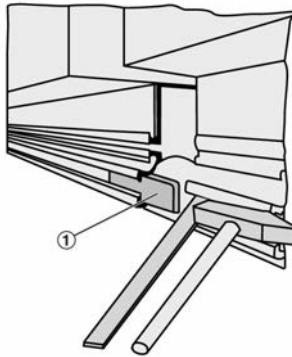

Fig. 6: Linking slot diffusers
3. ▶ The supplied alignment plates (Fig. 6/1) help you align slot diffusers for a continuous linear arrangement.